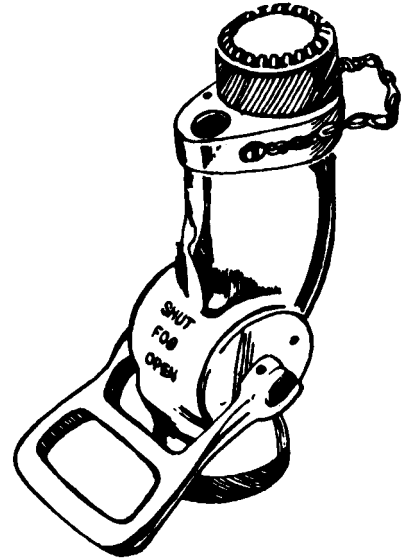

Figure 2-24. Combination nozzle.
c. Combination Nozzle. The combination nozzle (fig. 2-24) has both a fog tip and a solid stream tip. The controlling shutoff has positions for both fog stream and solid stream operation, as well as an off position. It should not be used on electrical or flammable liquids fire because the control handle might accidentally be shifted to the solid stream position.